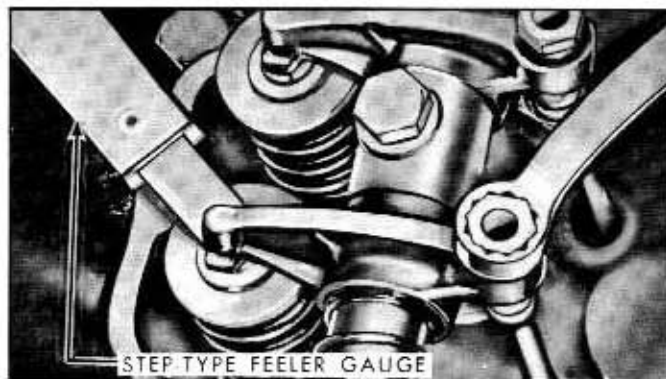

Fig. 6A-9—Valve Clearance Adjustment—(60C-5609)
Operate the engine for a minimum of 30 minutes at approximately 1200 rpm to stabilize engine temperatures. With the engine idling, check the valve clearance. Adjust the clearance if necessary. See figure 6A-9. The final (hot) intake and exhaust valve clearance should be 0.016 inch.
3. Make sure the push rod is in the tappet socket. Install a dial indicator in such a manner as to have the actuating point of the indicator in the push rod socket and in the same plane as the push rod movement. See figure 6A-10.